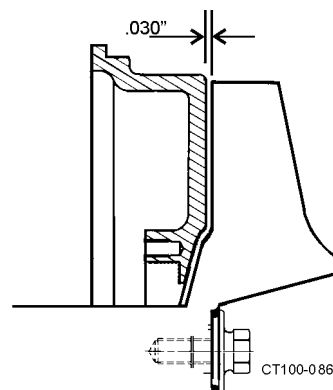

Figure 42 - Place Shims Between Impeller and Backplate
3. Lubricate and slide the seal O-ring onto the impeller shaft. (Use the spring retainer as a tool to push the O-ring into the rotary seal). (Figure 42).
6. Temporarily put 0.03" shims between the impeller vane and back plate to preset clearance. **Be sure to remove shims before final assembly.** (Figure 42).